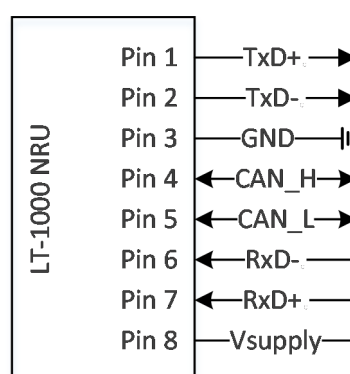

FIGURE 29: TRANSMIT AND RECEIVE DIRECTIONS FOR THE LT-1000 NRU.
**NOTE:** To avoid any misinterpretation, the transmit (Tx) and receive (Rx) directions are illustrated in Figure 29, relative to the LT-1000 NRU.